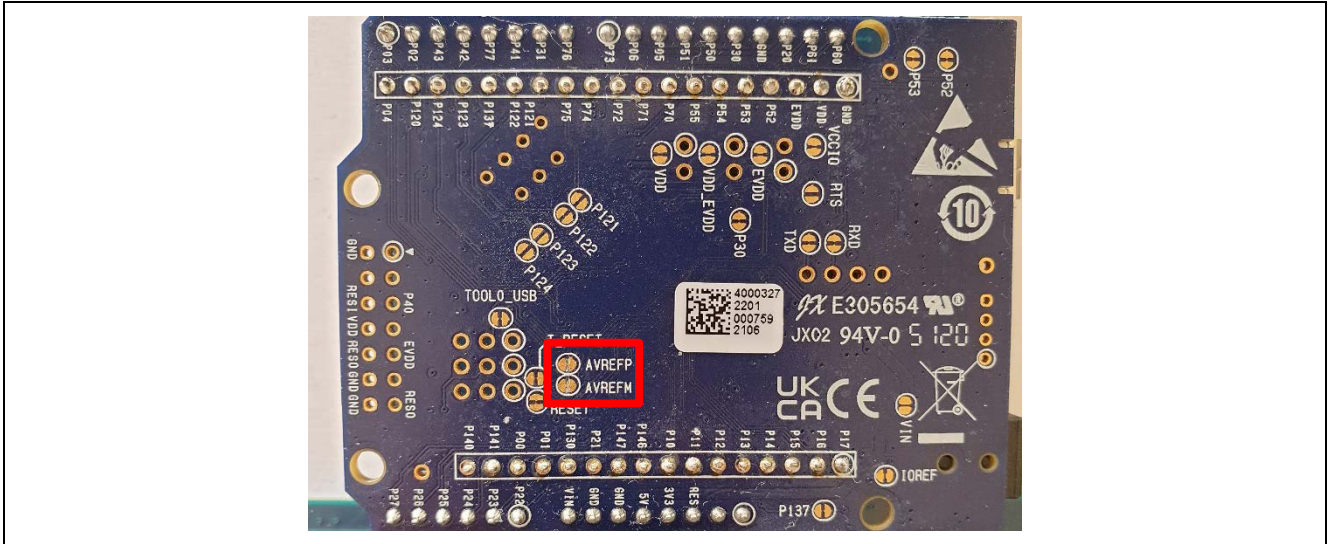

Figure 2. AVREFP AVREFM tracks
1. Cut the **AVREFP** track. (Figure 2)
2. Cut the **AVREFM** track. (Figure 2)
3. Fit jumper **J17** to **pos 2-3** (+3V3).